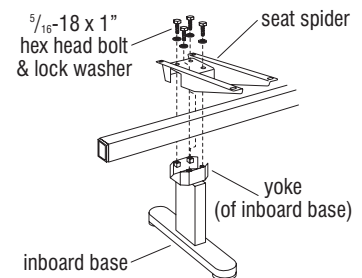

Figure 2
1. Place beam onto "yoke" of inboard base. Make sure the center of the base is approximately 10" from the end of the beam for end installations (Figure 2).
3. Position the seat, table or bench spider correctly onto the beam over the inboard base. Attach the spider to the "yoke" of the inboard base with four  $\frac{5}{16}$ -18 x 1" hex head bolts and lock washers. Tighten bolts diagonally (Figure 2).